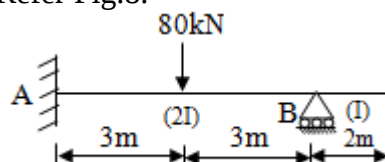

Fig.8
- (c) Using the method of consistent deformation method, compute all reactions and draw shear and moment diagrams. Take $E=200\text{GPa}$ & $I= 80\times 10^6\text{mm}^4$. Refer Fig.8. 07